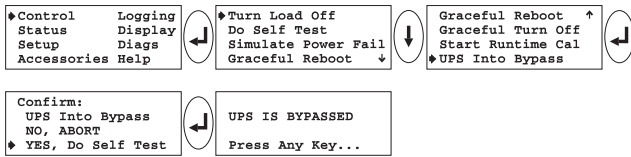

Fig 5-23 Initiate a Self-Test Sequence
- ❑ 10. Place the Symmetra™ into Bypass by following the screen sequence in figure 5-23.